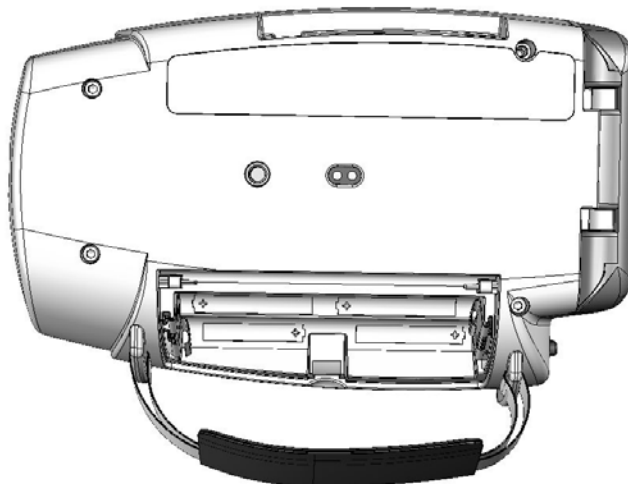

Figure 1-7: Battery Polarity
- Step 2 Follow the polarity instructions stamped in the housing (Figure 1-7) and insert the four AA batteries. If using rechargeable batteries, fully charge them before using for the first time.